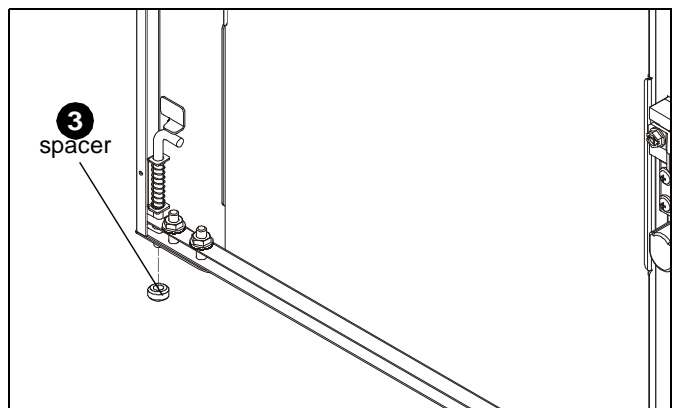

Figure 27
3. Remove spacer from bottom door pin. (See Figure 27)